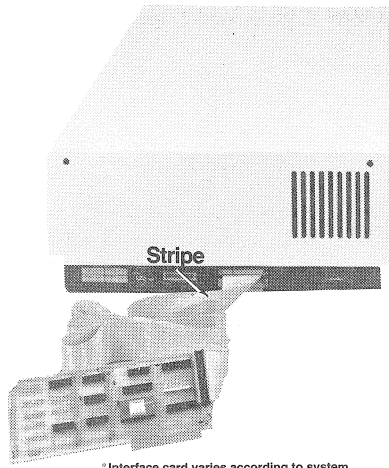

FIGURE 2.6 PROPERLY CONNECTED DRIVE
Both of these connectors should only be connected with the cables leading down and away from the drive (see figures 2.6 and 2.7). When facing the drive cabinet back panel, the colored stripe should be to your right. To safeguard your drive's hardware, do not try to force a cable to connect in any other way.
IT IS POSSIBLE TO CONNECT THE CABLE INCORRECTLY. PLEASE GO SLOW AND TAKE CARE TO CORRECTLY CONNECT THE CABLE (AS DEPICTED IN FIGURE 2.6).
2. If you have not connected a stand-alone Mirror to your system, you must now connect the interface cable to the connector on the drive cabinet backpanel labeled PROCESSOR. The interface cable should only be connected with the cable leading down and away from the drive (as depicted in figure 2.6). When facing the drive cabinet back panel, the colored stripe should be to the right. To safeguard the drive's hardware, do not try to force a cable to connect in any other way.